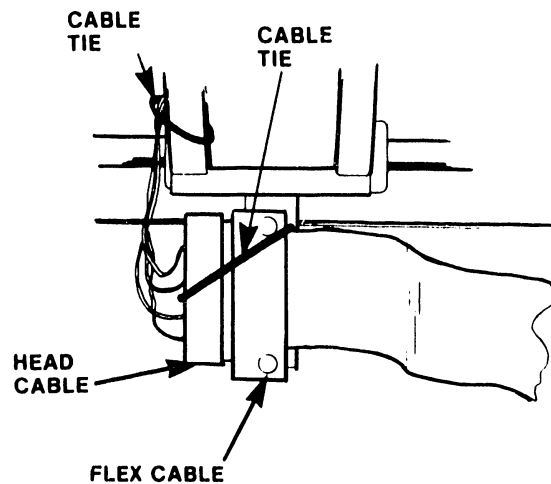

FIGURE 5-45 HEAD AND FLEX CABLE
1. Release the locking tab securing the connector, and disconnect the head cable from the flex cable (see Figure 5-45).